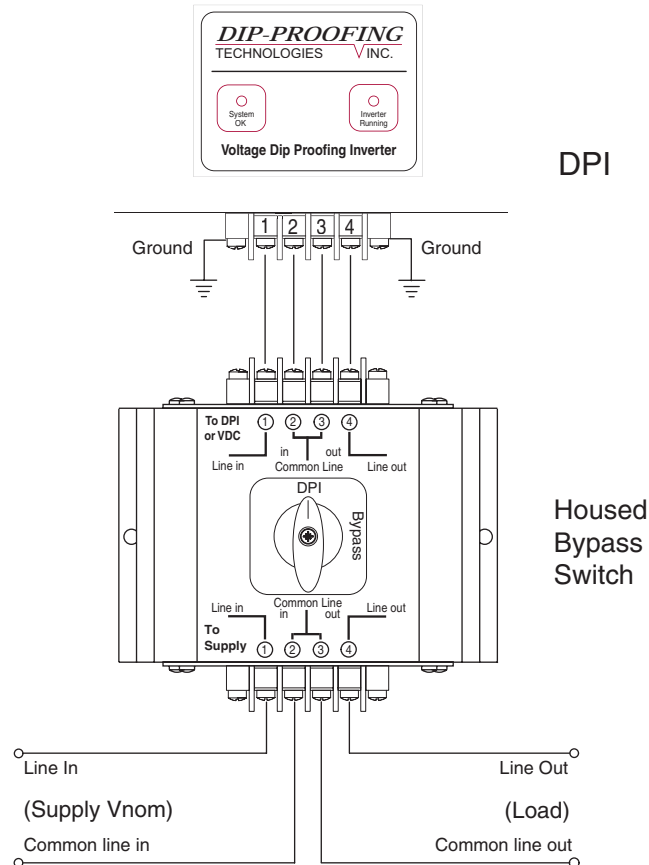

Fig 4
10. In applications which require no break maintenance, a bypass switch must be installed. Order Housed Bypass Switch model DPIBPSW which should be connected as shown in Fig 4.